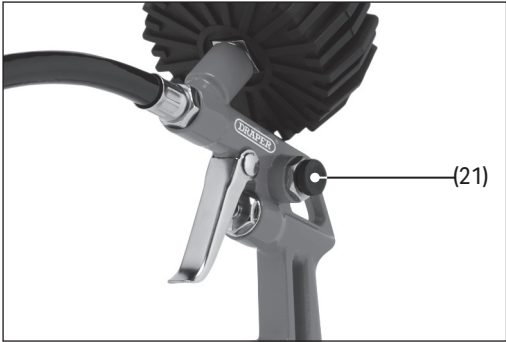

Fig. 17
- 6. To reduce the pressure in the tyre, press the exhaust button (21) (Fig. 17).